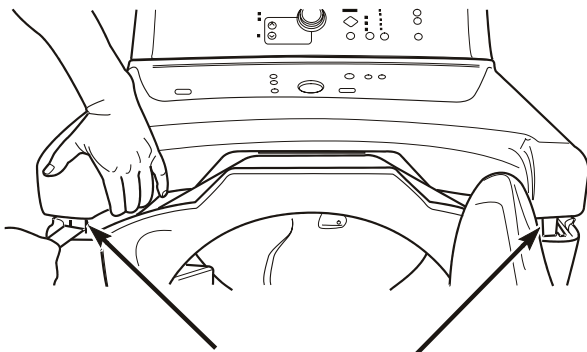

FIGURE 1
1. Lift dryer top. Use a putty knife to press against the left and right spring clips to release them from the top. Gently lean dryer top toward the wall so as not to damage the dryer top or wall. See *Figure 1*.